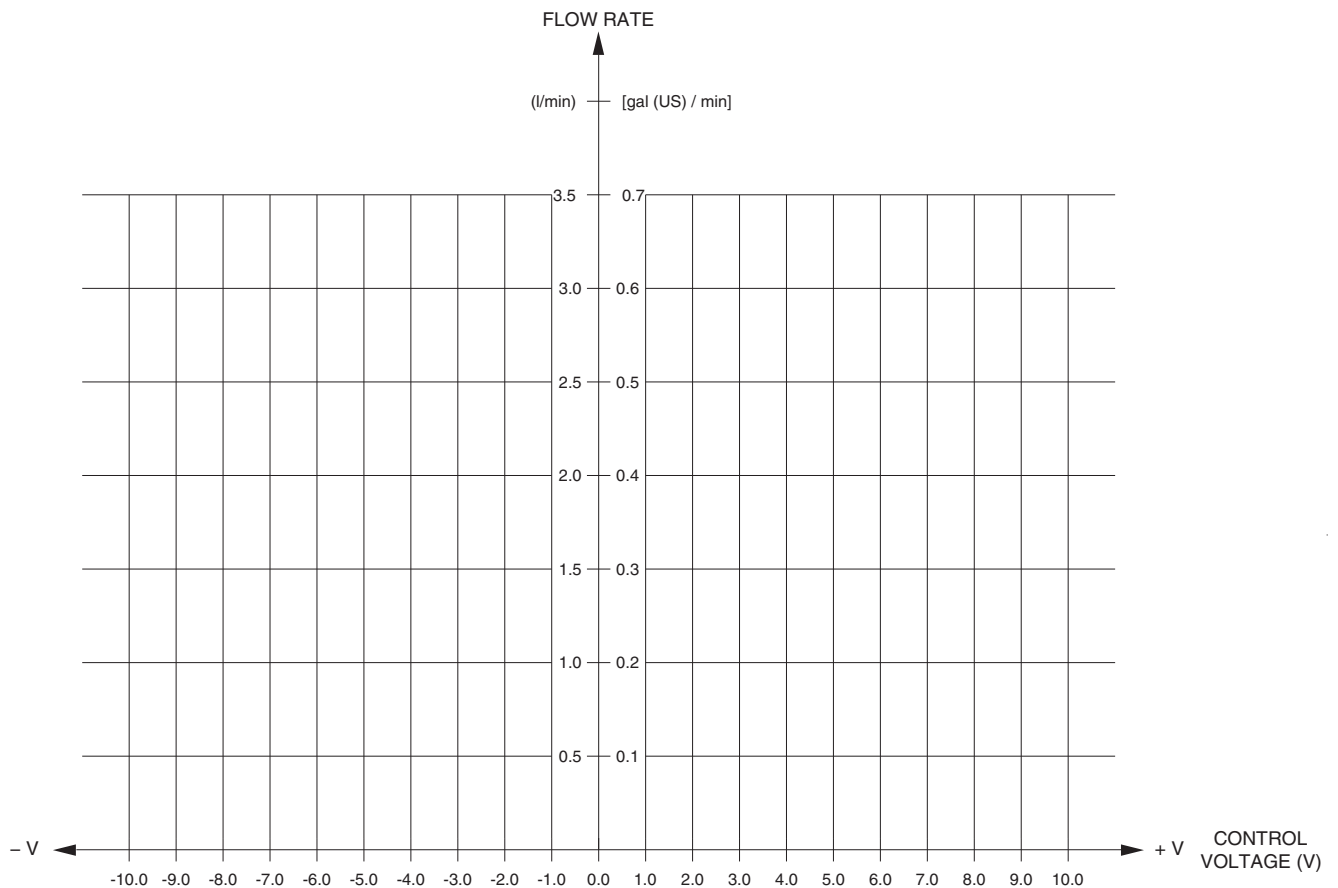

Figure 1-8. Flow rate/voltage curve of the proportional valve.
- 15. In Figure 1-8, plot the flow rate/voltage curve of the Proportional Directional Control Valve, based on the data recorded in Tables 1-1 and 1-2.
- 16. Describe the curve you obtained in Figure 1-8 in terms of dead band, linearity, and hysteresis.